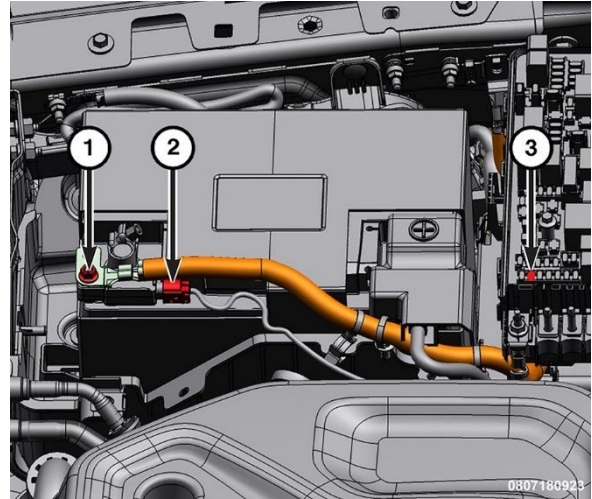

Figure 14 – Negative Battery Cable, Fuse F09 and IBS Connector
18. Remove the cover, connect the negative battery cable to the IBS and tighten the fastener (1) to 10N·m (7 ft. lbs.) (Figure 14).
19. Install the F09 (5 amp) IDCM fuse (3) in the Power Distribution Center (PDC) (Figure 14).
20. Connect the IBS harness connector (2) (Figure 14).